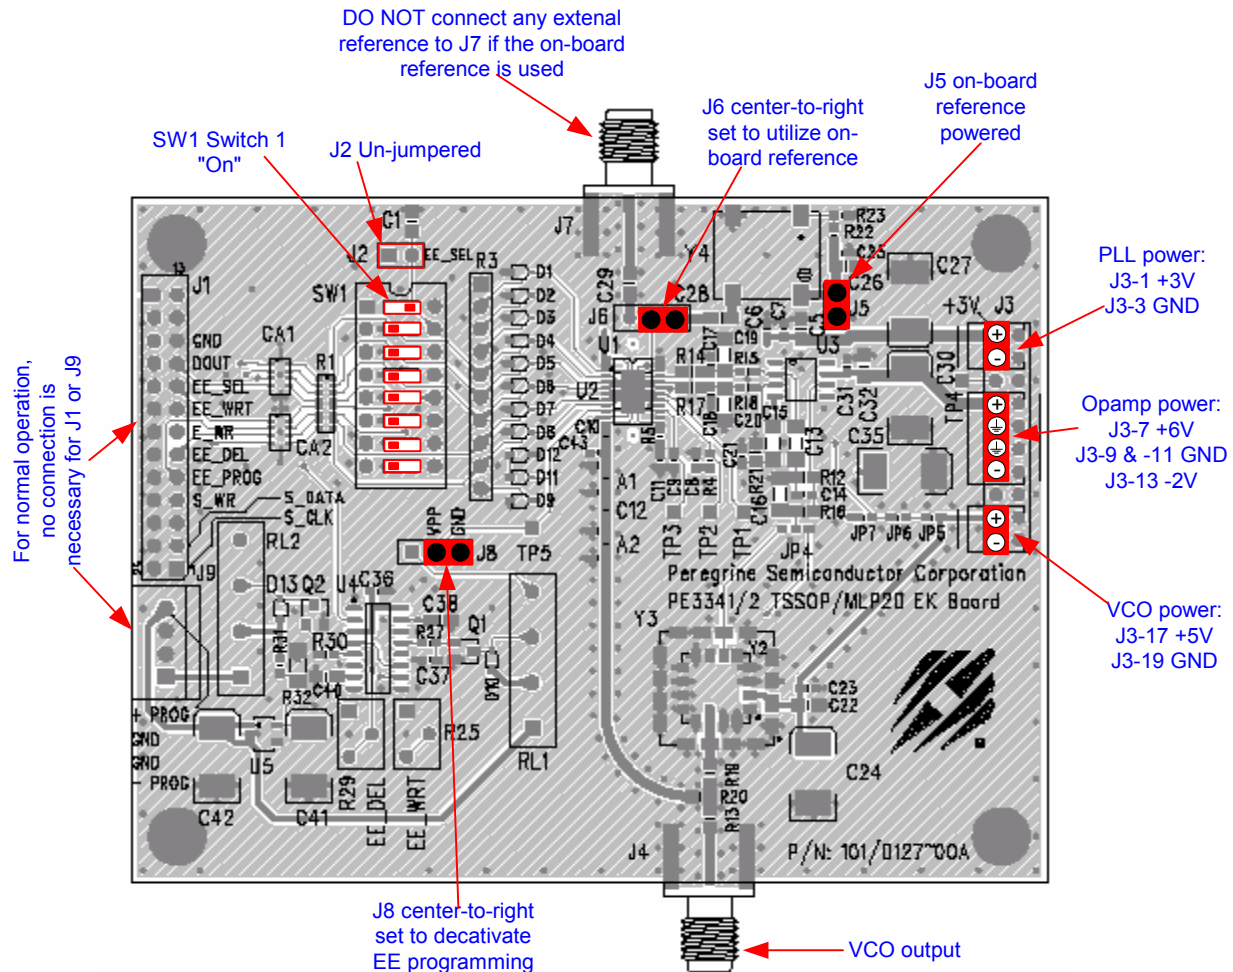
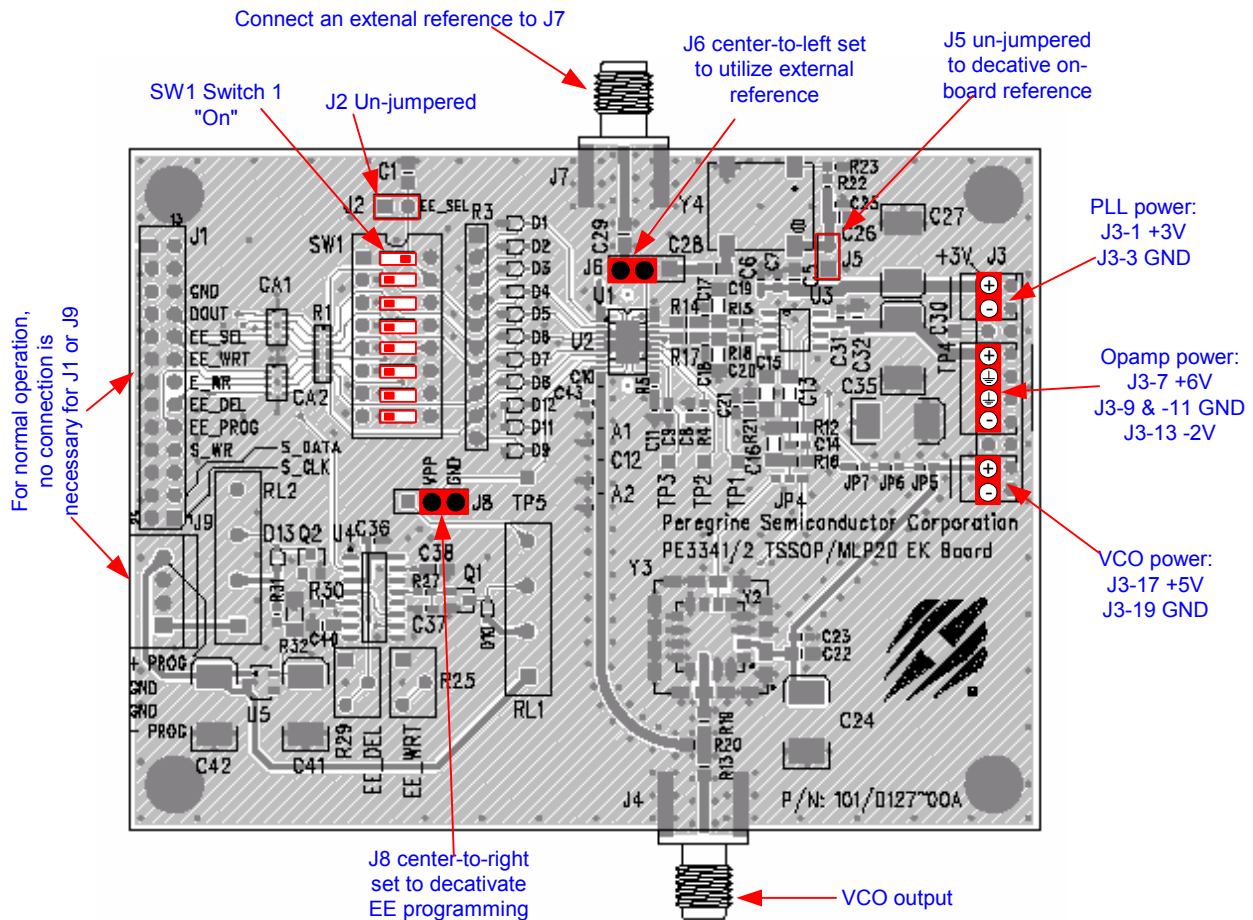

Figure 1. Evaluation Kit Default Jumper & Switch Settings Using on-board Reference.
Figure 2. Jumper Setting to Use an External Reference
The PE3342 Evaluation Board is configured with an on-board VCO, TCXO reference and a second order *active* loop filter. The VCO tuning range is *approximately 190 MHz with middle frequency at 2610+/- 25* for a tuning voltage 0.5 to 4.5 volts. The reference oscillator is 20 MHz. The loop filter is designed for a 1 MHz comparison frequency and a 2600 MHz output frequency with unity gain crossover at 66 kHz, phase margin of 65 degrees and 1.2 dB of peaking. Unless noted, the data provided was measured in this configuration with the default jumper settings shown in Figure 1.
Two jumpers (J5 & J6) configure the Evaluation Board to operate with either the on-board reference oscillator (TCXO) or an external reference applied to J7. Figure 1 shows the proper configuration for utilizing the on-board TCXO reference. J6 in the middle-to-right connection as shown connects the output of the TCXO to the PLL  $f_r$  input, while J5 installed provides power to the TCXO. Do not connect any external reference to J7 if the on-board reference is selected. To use an external reference, place J6 in the middle-to-left connection which connects the PLL  $f_r$  input to the J7 SMA connector and remove the jumper on J5 to power-down the TCXO. Figure 2 shows the configuration of using an external reference.
The default jumper and switch settings are shown in Figure 1, which place the part into EEPROM mode utilizing the on-board reference. Peregrine Semiconductor recommends that the default settings be used initially to bring up the evaluation board and duplicate the enclosed measured data.
1. Verify a jumper is placed on the connector J5 and REF Selector (J6) is positioned in the middle-to-right connection to select the on-board reference as shown in Figure 1.
4. Connect power supply cable to the Evaluation Kit board as shown in Figure 1. Note that the red connector of the power cable is always the positive and the black connector is ground in a 2-wire cable or the negative in a 4-wire cable.